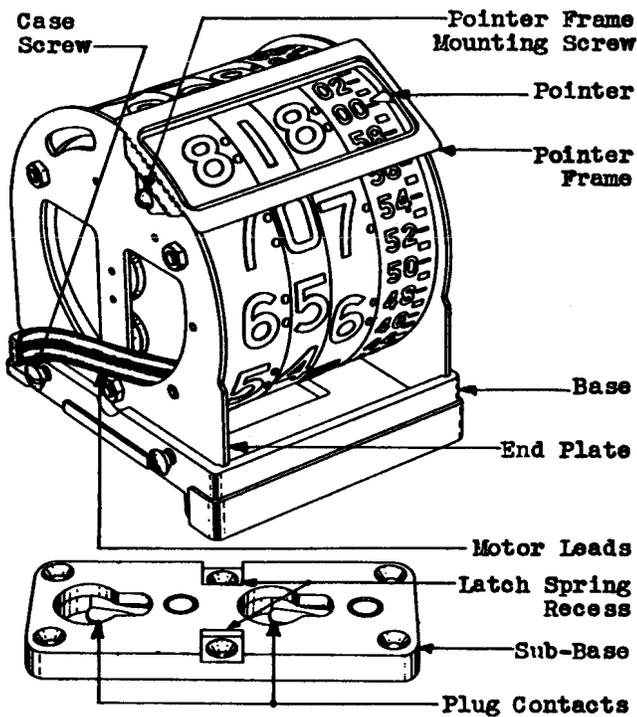
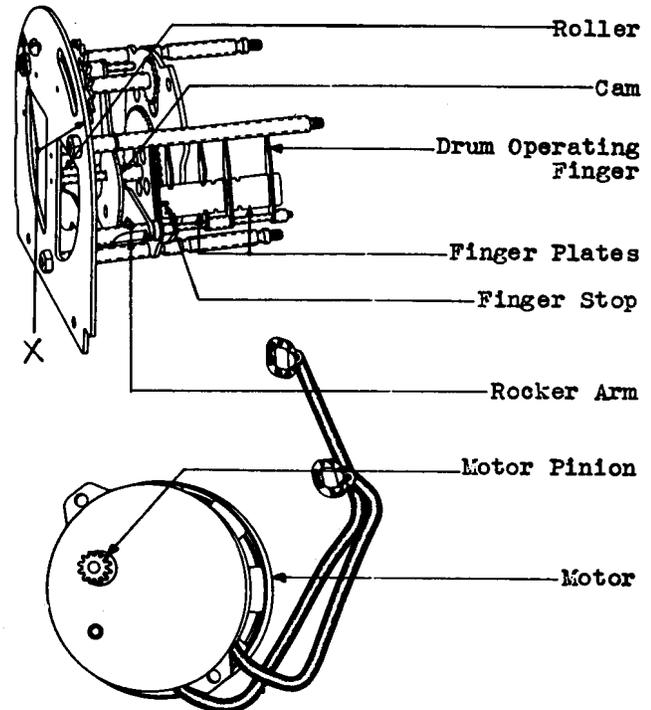

Fig. 2 - KS-8263 Clock (Case Removed) and Sub-Base
Fig. 4 - Gear and Cam Assembly and Motor
3.003 Removal of Clock from Service and Preparation for Adjustment: Remove a clock from the type of sub-base illustrated in Fig. 2, by pressing the latch spring at the rear of the clock against the case. Slide the clock to the left or right, depending on the manner of mounting. Remove a clock which is recessed in the keyshelf by lifting it vertically from its mounting. Loosen the four case screws with the KS-6854 screwdriver and withdraw the clock mechanism from the case. If the clock mechanism sticks in the case insert the blade of the screwdriver between the head of the case screw and the top of the associated notch in the case and force the case upward a slight amount by turning the screwdriver. Repeat this operation at each of the four case screws. Take care not to force the case too far at each operation as there is danger of cracking or chipping the case. Repeat the operation until the clock mechanism can be withdrawn from the case. Before remounting the case file a slight amount from the edges of the end plates for approximately 1 inch down from the points designated X in Fig. 4, using the R-1051 pillar file. This will usually be sufficient to relieve the bind and permit easy removal of the mechanism from the case. Do not remove more metal than is necessary to relieve the bind and carefully remove all filings.
(4) To reassemble the clock first arrange all fingers on the rocker arm to point away from the motor mounting position and make sure that the plates and stops on the fingers strike each other on the proper side to insure the fingers being in line with each other. The position of the fingers will be correct if all the fingers can be raised by means of the single finger adjacent the gears. With the roller at the lowest point of the concave side of the cam, remount the motor, if it was removed, so that the motor gear engages with the two associated gears of the drum driving assembly. Tighten the motor mounting screws securely. Make sure all drum actuating fingers are pointing up (in the direction of movement of the drums) and mount the seconds drum, depressing the finger arm, if necessary to permit the drum passing the finger which actuates the minute drum. Position the seconds drum on the driving gear so that the "02" seconds position is directly adjacent to the screw which mounts the pointer frame. Remount the three remaining time drums in proper order. Pass both motor leads through the opening in the end plate which is below the pointer frame mounting screw. (See Fig. 2.) Be careful that the leads are not stretched and the insulation cut at the points where the leads contact the end plate. Position the end plate with the pointer frame mounting screw facing out and tighten the end plate mounting nuts securely. Remount the pointer frame and tighten its mounting screws securely. Reposition the terminals of the motor leads in the base and tighten the two plugs and nuts in the base. (See Fig. 2.) Position the clock in the base and tighten the case screws. Check the movement of the time drums and if necessary disassemble the clock sufficiently to correct for binding parts. Reassemble the clock.